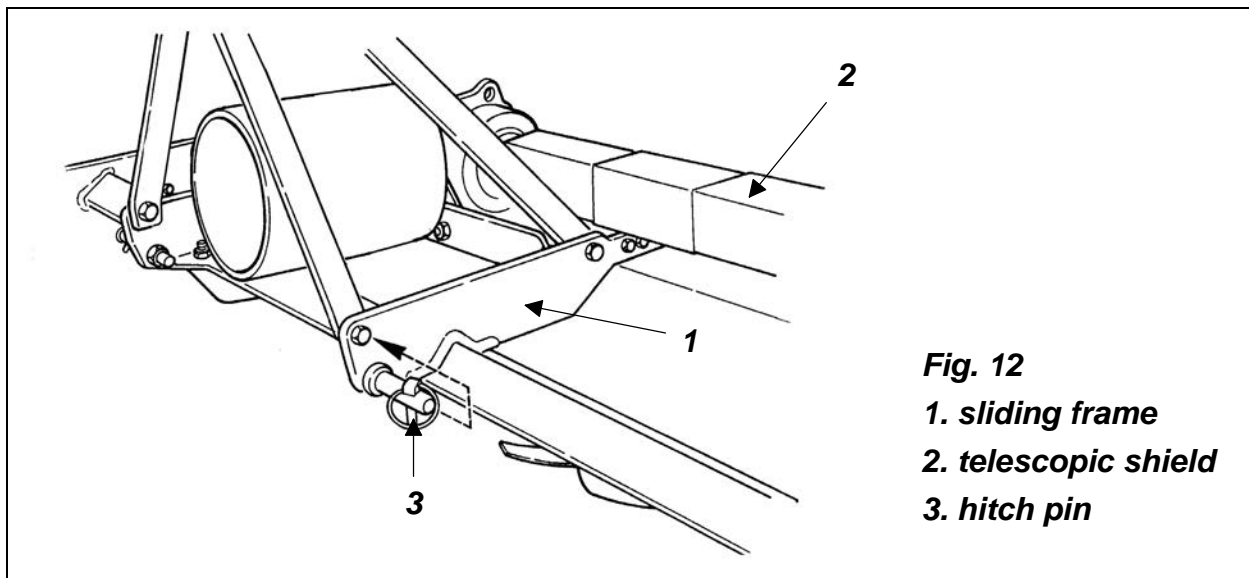

Fig. 12
2. The tiller hitch pin (**#3, fig. 12**) may be positioned in either the top or bottom hole, depending on driveline length and tractor size.